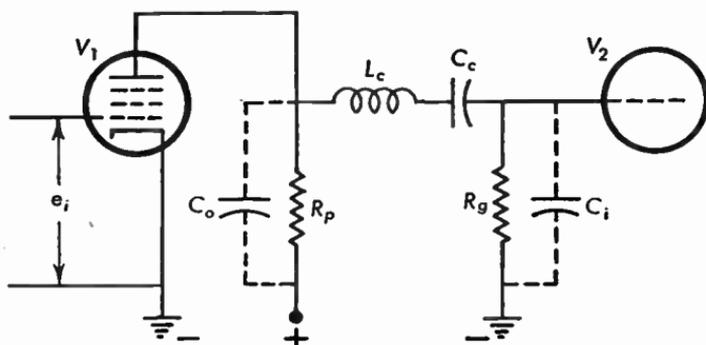

Fig. 11.37a Video amplifier with series-peaking coil for high-frequency compensation.
11.37 In the video amplifier of Figure 11.37a, $R_p = 2000$ ohms, $r_p = 100,000$ ohms, $L_c = 100$ microhenries, $C_c = 0.25$ microfarad, $R_g = 2$ megohms, $C_i = 12.5$ micromicrofarads, $C_o = 7.5$ micromicrofarads, the transconductance of V_1 , $g_m = 7700$ micromhos. Calculate the gain at 4 megacycles (a) with the series peaking coil L_c short-circuited, (b) with the series peaking coil L_c in the circuit.